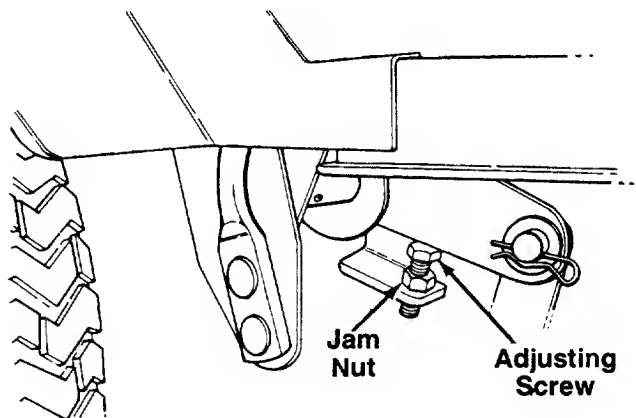

FIGURE 13.
2. Using a 1/2" wrench, loosen the jam nut located at the right rear deck link. See figure 13. It may be helpful to raise the cutting deck slightly to loosen the jam nut and to move the adjusting screw.